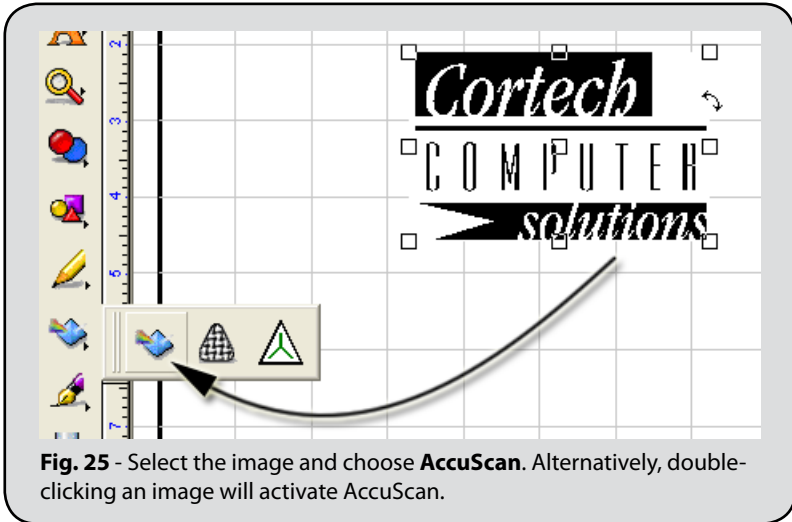

Fig. 25 - Select the image and choose **AccuScan**. Alternatively, double-clicking an image will activate AccuScan.
1. With the image selected, choose **AccuScan** from the **Scan Tools** flyout (Fig. 25).